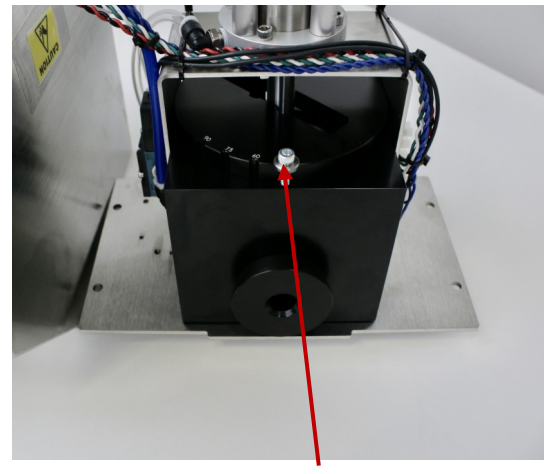

Figure 3.2.2 Remove screw and washer
- Remove screw in the angle selection wheel. **Figure 3.2.2**